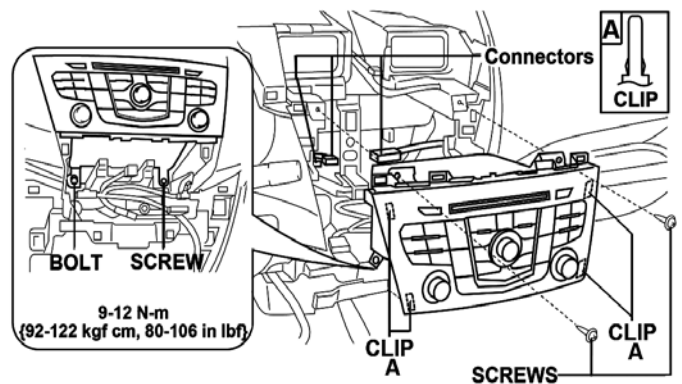

FIGURE 18
1. REMOVE THE THREE SCREWS AND ONE BOLT. (SEE FIGURE 18)
2. PULL THE AUDIO UNIT OUTWARD AND DISENGAGE CLIPS A. (SEE FIGURE 18)
3. DISCONNECT THE CONNECTORS AND REMOVE THE AUDIO UNIT. (SEE FIGURE 18)